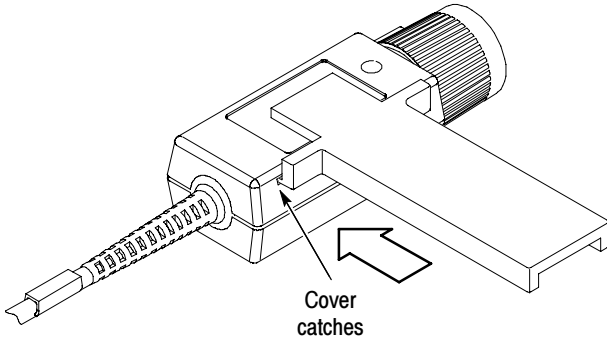

Figure 9: Removing the compensation box covers
1. Press the optional release tool pins into the compensation box cover catches and gently lift the cover off a small distance. Refer to Figure 9.